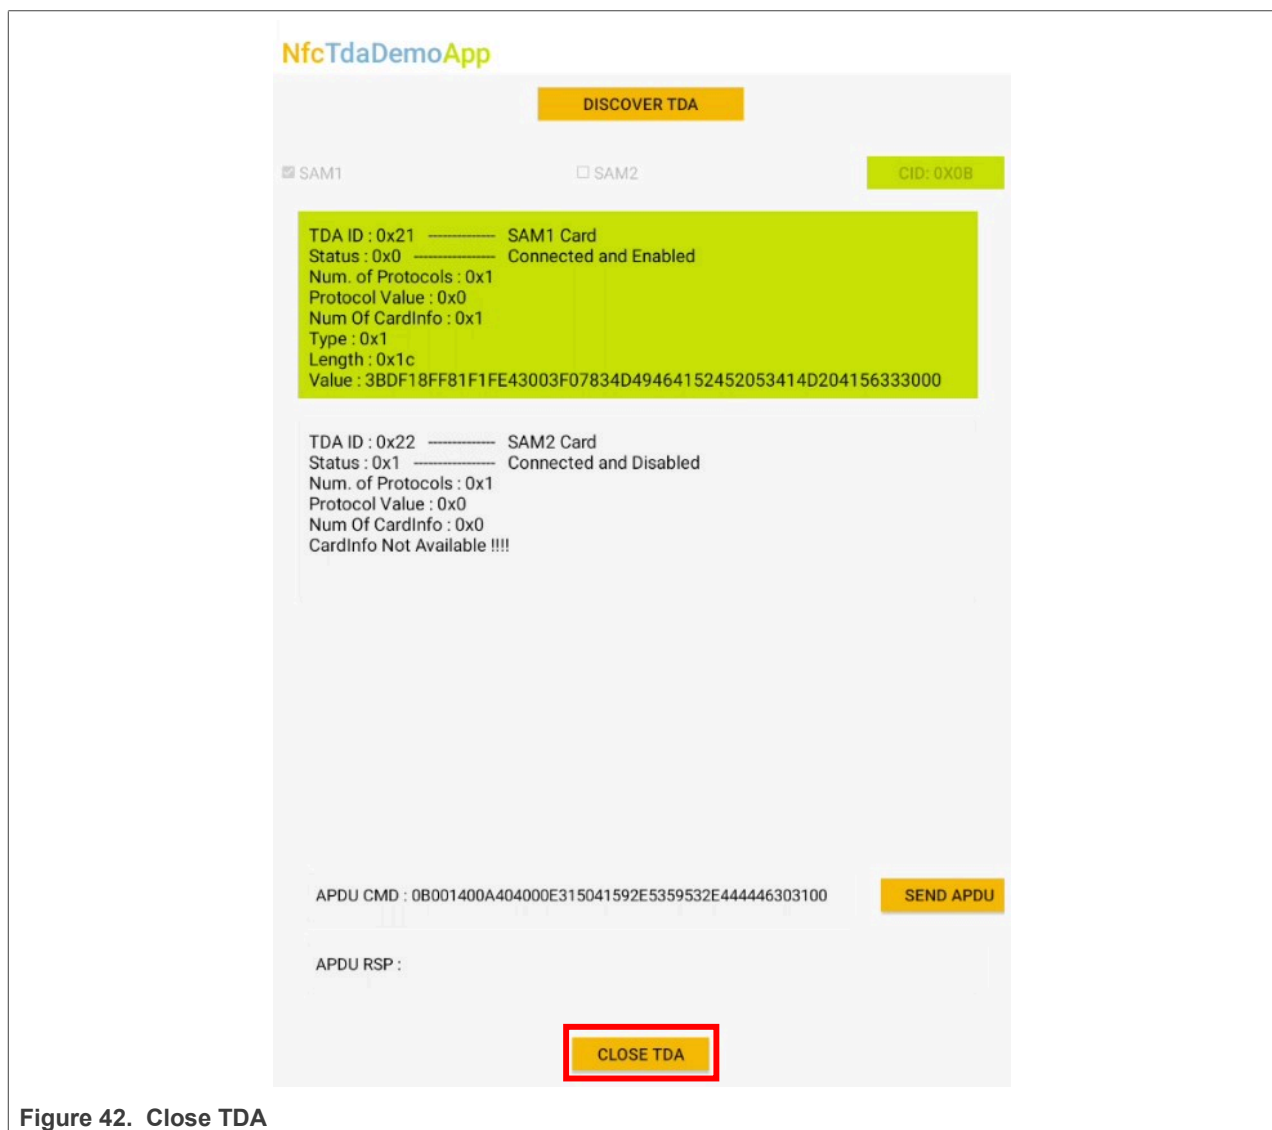

Figure 42. Close TDA
5. The TDA can be closed with the "CLOSE TDA" button. See Figure 42.